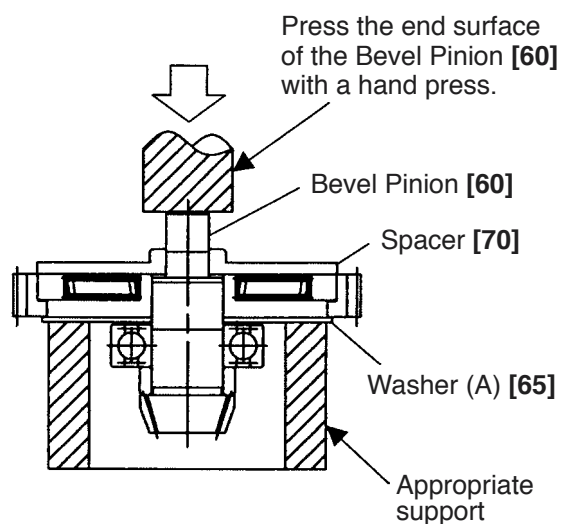

Fig. 18
(4) Disassembly of the slip clutch
Remove the Ball Bearing 629VVC2PS2L [71] with a bearing puller. Place the assembly on a sleeve-type support facing Washer (A) [65] downward as shown in Fig. 18. Push the Spacer [70] side of the Bevel Pinion [60] with a hand press to remove the Gear Holder [66] and the Spacer [70] from the Bevel Pinion [60].